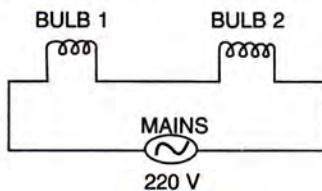

Fig. 9.10
- The arrangement of two identical bulbs in series with the mains is shown in Fig. 9.10. In this